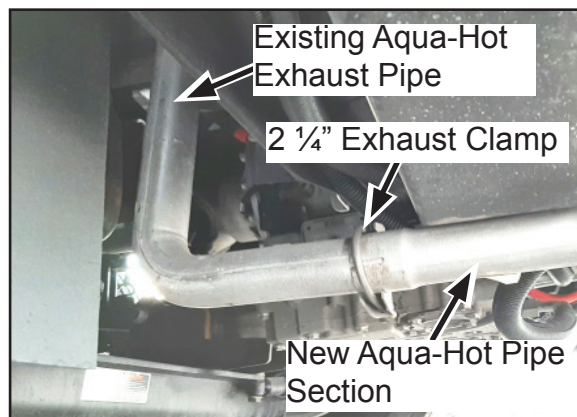

Figure 8
11. With the rear section of exhaust pipe properly oriented, use a 2 ¼" exhaust clamp to secure the connection between the two pipe sections located at the front edge of the radiator. See Figure 8.